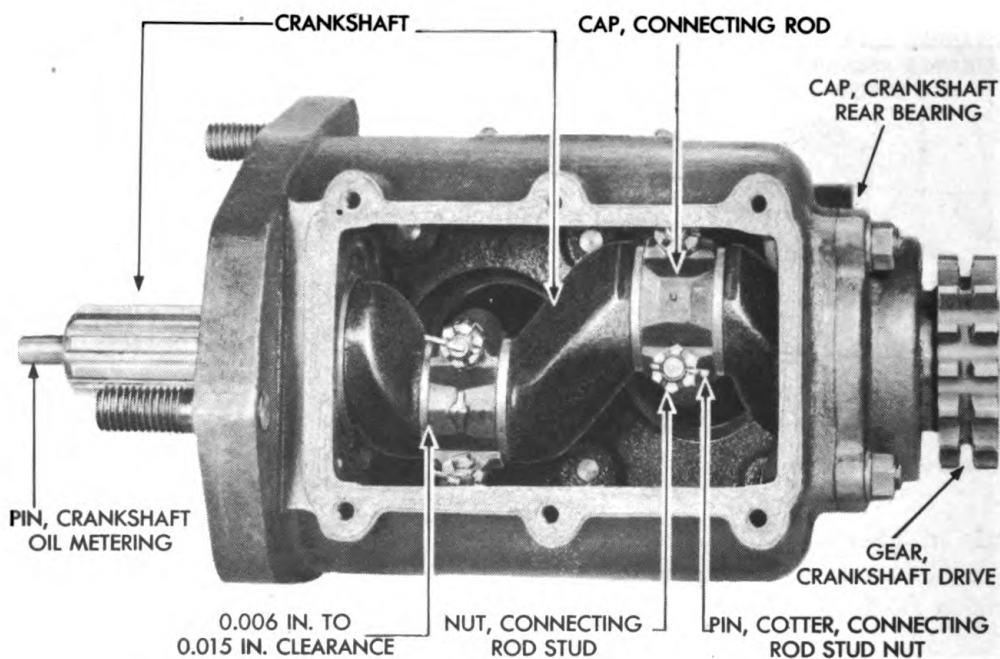

Figure 35—Bottom of Crankcase and Cylinder
b. Procedure. Install following five parts in air strainer housing: Air strainer top plate; air strainer perforated disk; air strainer hair in air strainer hair retaining wire; air strainer perforated disk and air strainer bottom plate (fig. 35). Install air strainer lock wire in bottom of air strainer housing, (screwdriver) (fig. 35).
(a) Remove two connecting rod bolt nut cotter pins (pliers) (fig. 35).
(d) The connecting rod cap for front cylinder has two prick punch marks on it and connecting rod cap for rear cylinder has one prick punch mark. If these punch marks are not visible, use a prick punch and hammer and punch mark the connecting rod caps (fig. 35).
(a) Pull crankshaft oil metering pin out of front end of crankshaft (fig. 35).
(b) Remove four crankshaft rear bearing cap stud nuts and lock washers ($\frac{1}{2}$ -in. socket wrench) (fig. 35).